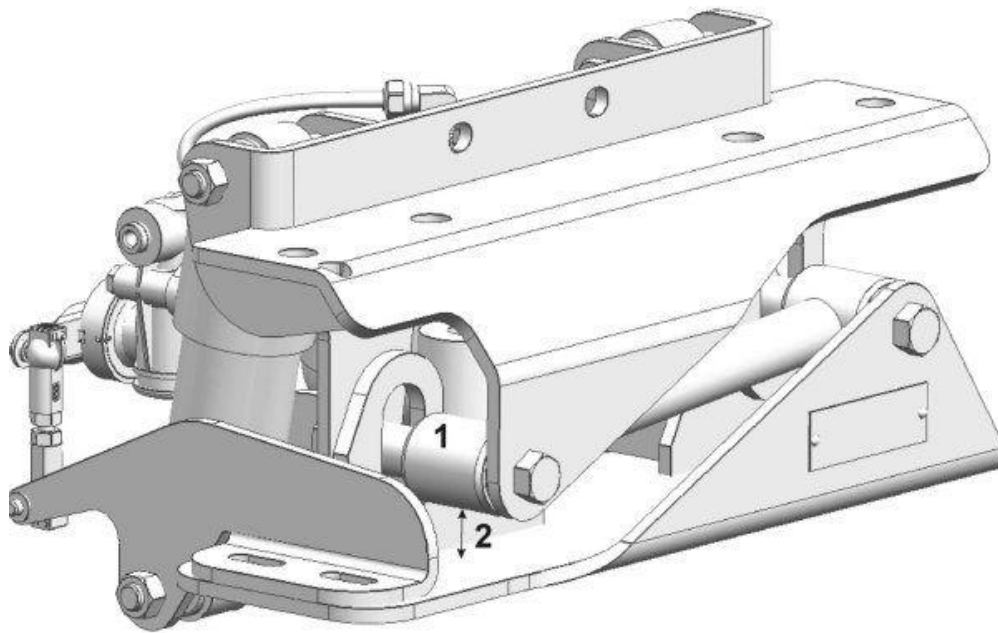

Figure 3. Cab Air Suspension for 9000 Day Cabs built after December 2001
4. Measure the space between the Lateral Control Rod and the Bottom Plate (Figure 3, Item 2). Adjust to 1.10".